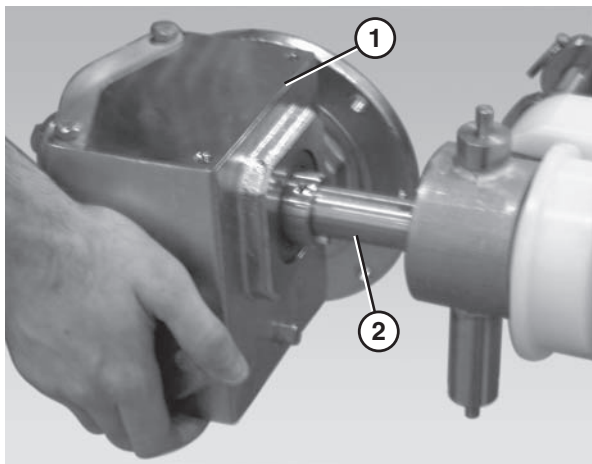

Figure 5
2. Slide the gearmotor assembly (**Figure 5, item 1**) onto the drive spindle (**Figure 5, item 2**).